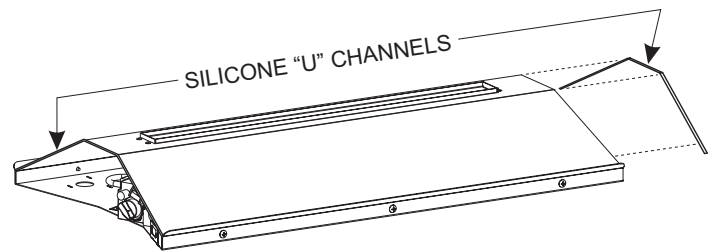

Figure 22
2. Before applying the glass to the burner top, attach the black silicone "U" channel edges (located in the Instruction Envelope) to each side of the Top Cover. **See Figure 22.** These "U" channels will help keep the decorative glass from falling over the outside edges of the Top Cover.